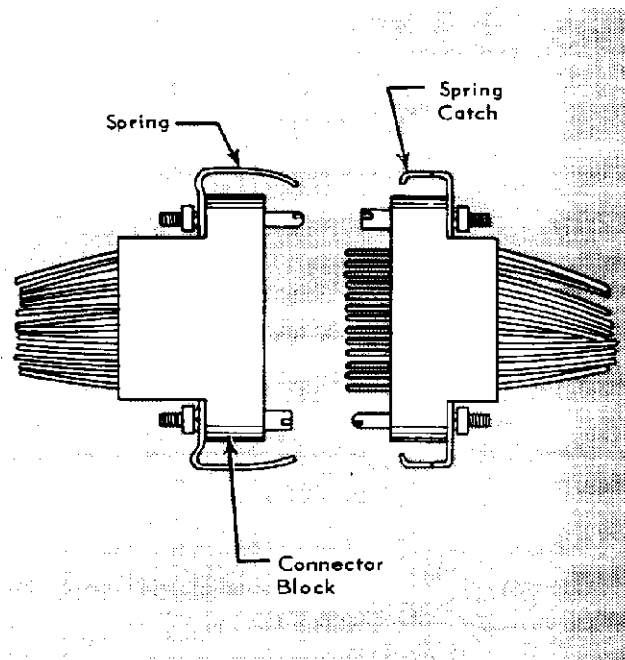

Fig. 5
- (a) Position Connector Blocks as shown in Figure 5.
- (b) Push Connector Blocks together until end of Spring Catch engages Serrations on Spring. See Figure 5.